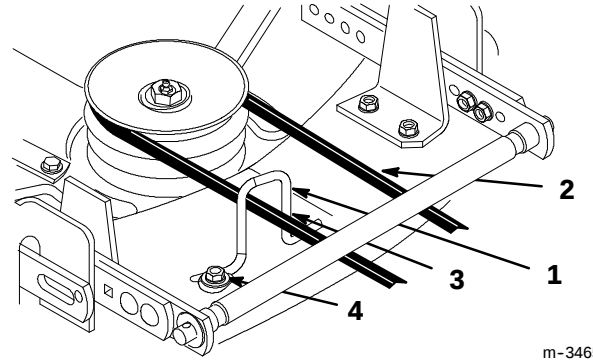

Figure 13
9. Loosen the belt guide bolt (Fig. 13).
10. Adjust the belt guide so that it just touches the belt on the inside arm of the guide, toward the center of the deck (Fig. 13).